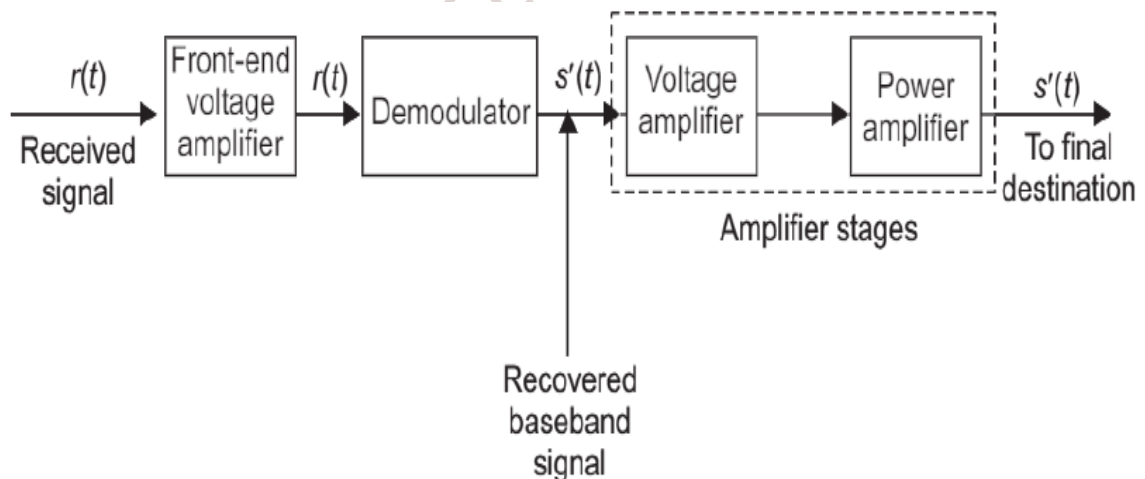

Fig: 4.6 Detailed block diagram of a typical receive section
- From Fig. 4.6 it is evident that the received signal, $r(t)$, is first amplified by the front-end voltage amplifier. This is done to strengthen the received signal, which is weak and to facilitate easy processing. Next, this signal is given to the demodulator, which in turn, demodulates the received signal to recover the original baseband signal. After recovering the original baseband signal, its voltage and power is amplified prior it to final destination block.